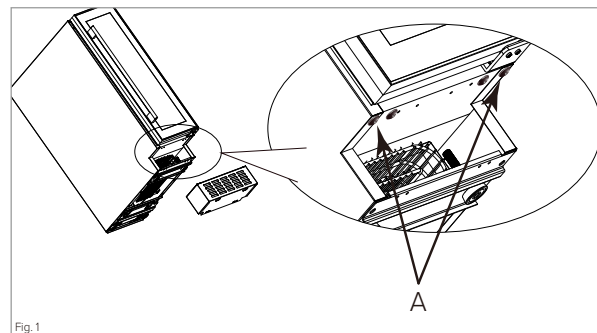

Fig. 1
- If there are screws marked as 'A' (shown in Fig. 1), remove these